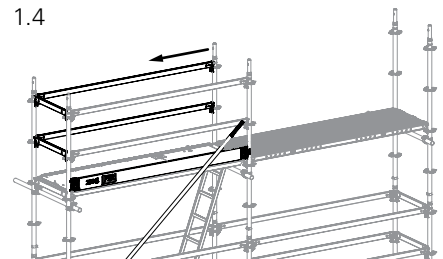

Fig. A4.01d
- Ledger UH on the inside, from a safe position (Fig. A4.01d)